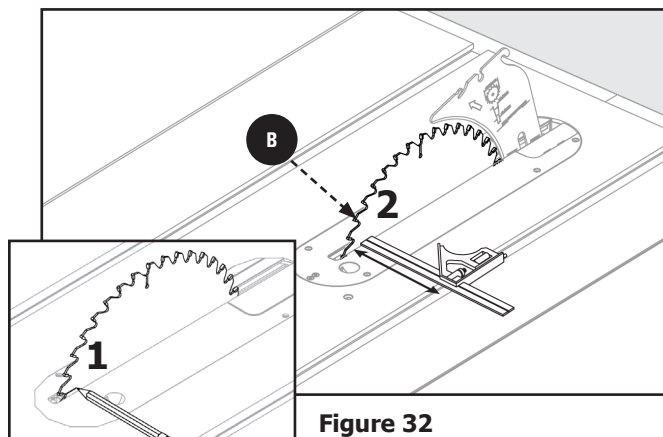

Figure 32
1. Mark beside one of blade teeth at front of blade **B** Figure 32. Place the combination square against the marked tooth at the front of the blade **B** with the head of the square against the miter gauge groove as shown.